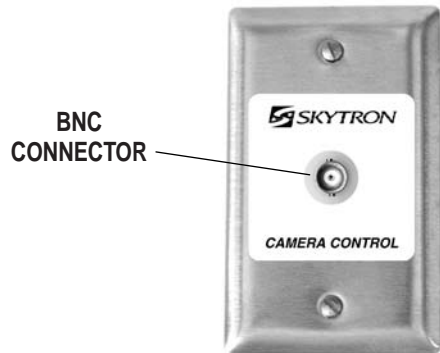

Figure 7. Camera Control Connector Faceplate
1. Attach the Coaxial Cable from the connector on the faceplate to the camera control unit (CCU). See figure 7.